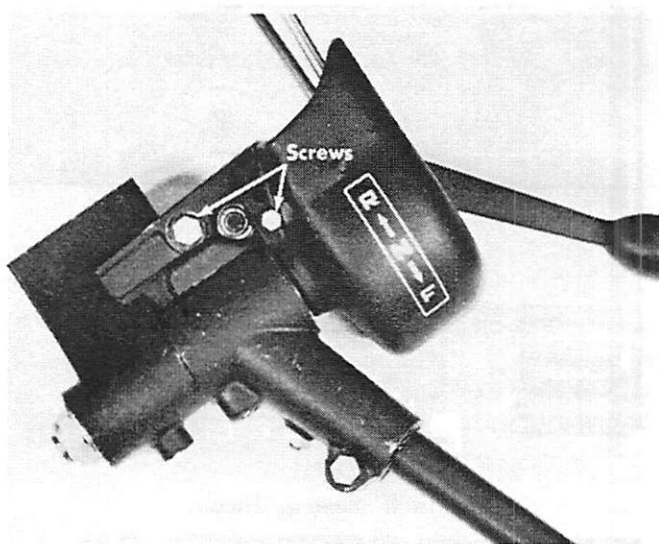

Figure 3. Cover Installed
2. Place cover in position on steering handle bracket and secure cover to bracket with 2 screws. (Figure 3)